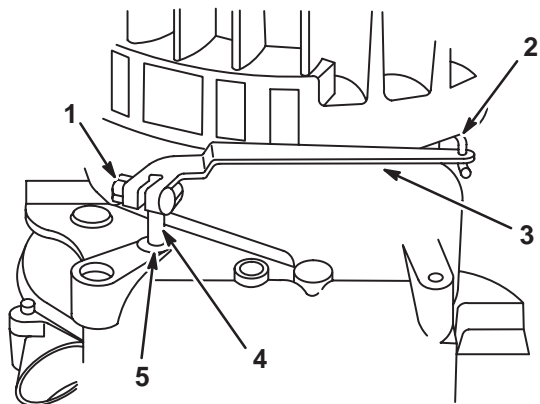

Fig. 44 – Removing Governor Lever
2. Loosen governor lever bolt and nut, Fig. 44.
- Remove push nut and washer from governor crank, remove burrs from governor crank, and remove crank from inside cylinder, Fig. 44.
- Turn crank until crank end contacts governor cup on governor gear or oil slinger, Fig. 44.